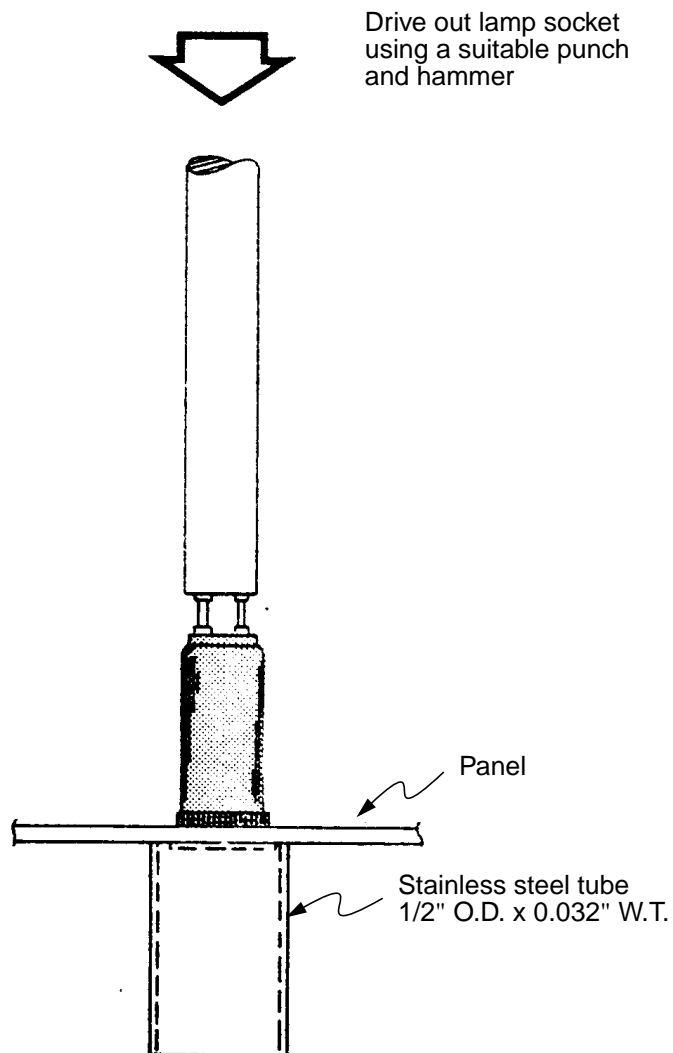

Figure 3 - Removal of DHP Lamp Socket
- Step 2. Drive the socket out from the back of the panel using a suitable punch and hammer (see Figure 3).